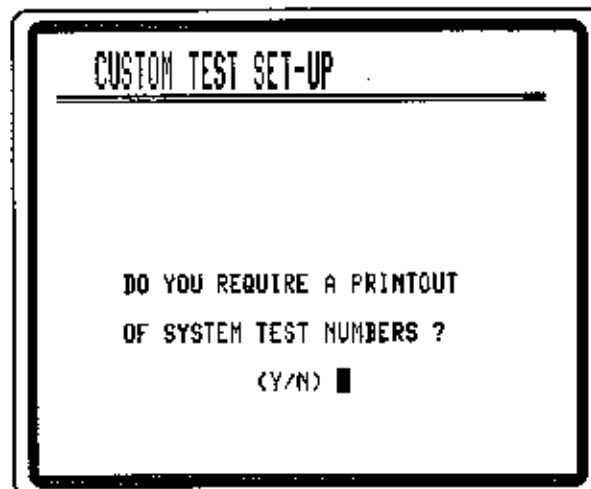

Figure 148
2. If the operator presses [1], the bottom line of the screen will change to read "CREATE NEW (N) EDIT (TEST NO.)." To create a new custom test, press [N]. To edit an existing custom test, press the correct test number and see "Edit Custom Test" instructions on the following page.
3. The next screen asks "DO YOU REQUIRE A PRINTOUT OF SYSTEM TEST NUMBERS? (Y/N)" (see Figure 148). The analyzer will print a list of all of the system tests with their I.D. numbers. These I.D. numbers must be entered to create the custom test sequence. Press [Y] to print; [N] to go on.